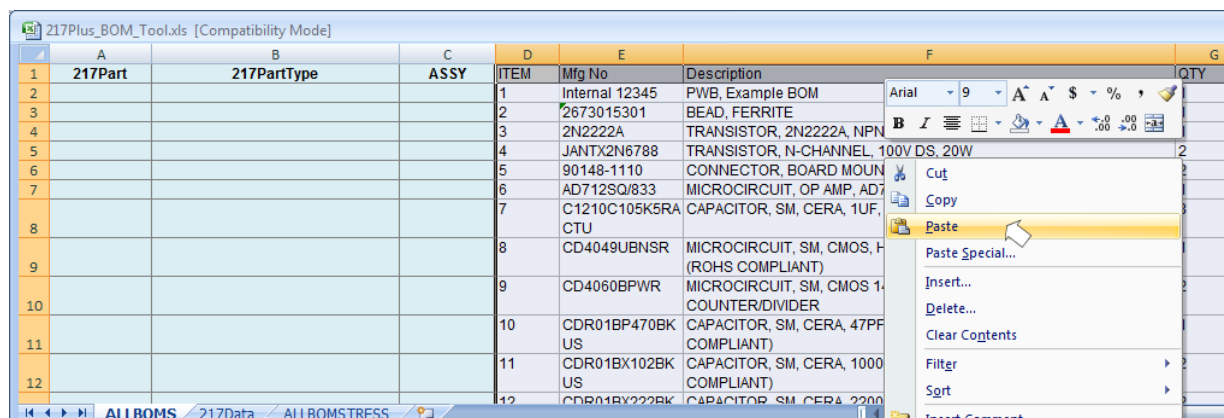

Figure 3. Pasting the First BOM into a User Revised ALLBOMS Worksheet
4. **Paste** the BOM data into **ALLBOMS** at **Column D, Row 2** (see Figure 3). The data should match with the column headers that were rearranged or renamed in Step 2.